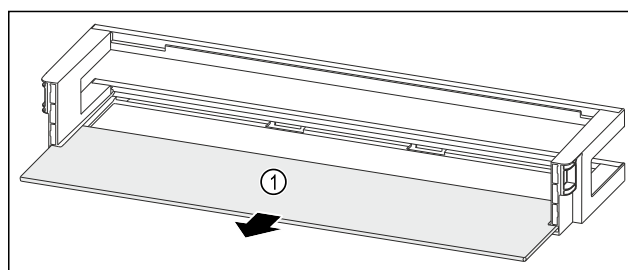

Fig. 80 Door racks with shelf
- Remove the shelf Fig. 80 (1).